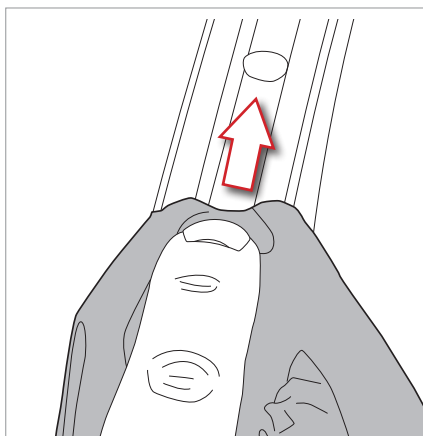

Fig.4
- Apply the tape carefully, ensuring that the entire length including the initial part adheres fully to the rim, pressing well with the fingers or with a plastic tool (Fig. 4). If necessary, cut off the initial part of the tape if it is not correctly adhered to the rim.